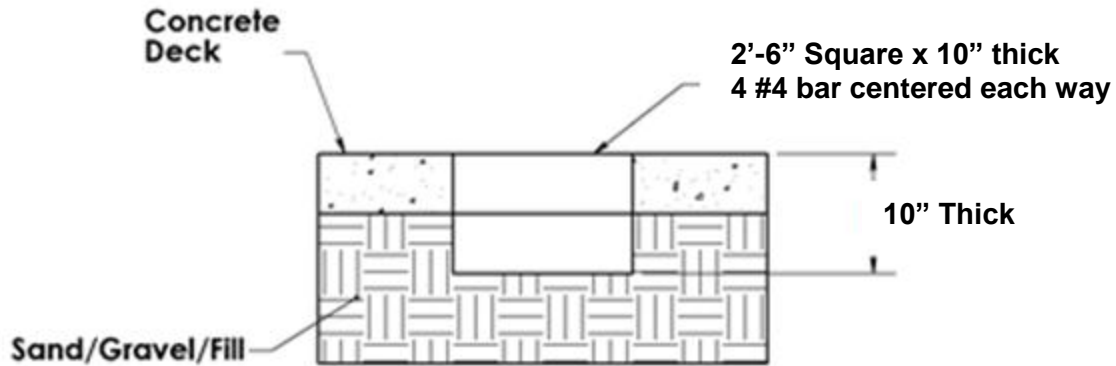

Figure 1
- b. Use a concrete cutting saw, cut the square out of the existing concrete deck. Using a heavy/sledge hammer to break the cut section of concrete – remove the section of concrete from the deck. See Figure 1.